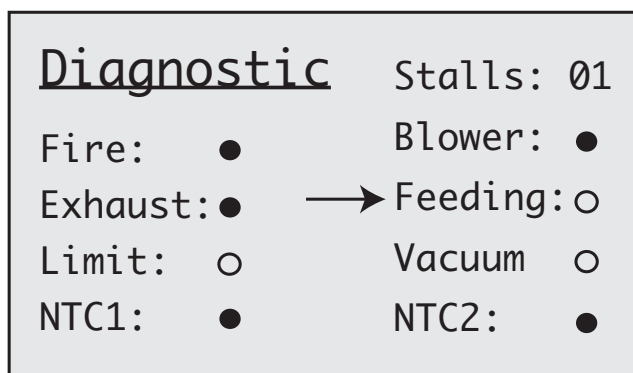

Figure 29
2. Using the **SCROLL DOWN** key, move to option 6, **"DIAGNOSTICS"**. Press **ENTER**. This will take you to the **"DIAGNOSTICS"** screen. **SEE FIGURE 29.**